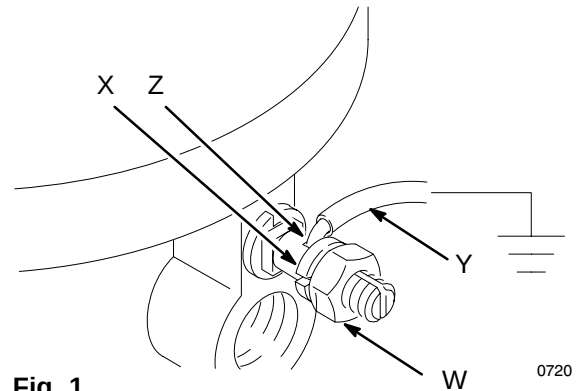

Fig. 1
1. *Pump:* use a ground wire and clamp as shown in Fig. 1. Loosen the grounding lug locknut (W) and washer (X). Insert one end of a 12 ga (1.5 mm²) minimum ground wire (Y) into the slot in lug (Z) and tighten the locknut securely. Connect the other end of the wire to a true earth ground. Order part number 222-011 Grounding Clamp and Wire.